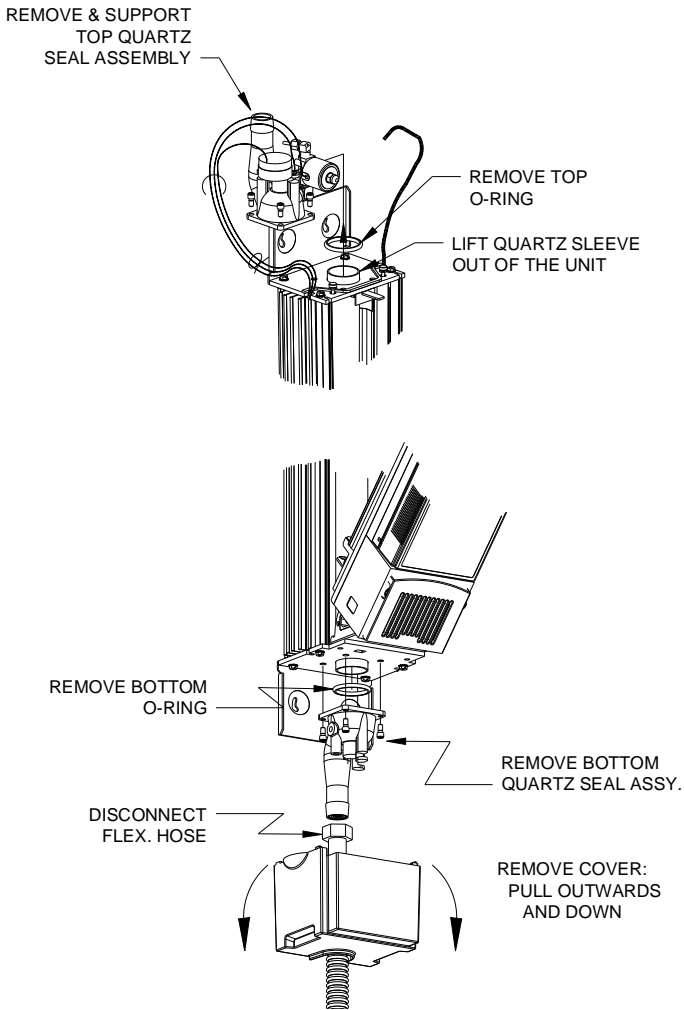

Figure 4D
Step 4: If the quartz is still not clean, it requires replacement. This is done by removing the bottom quartz seal assembly (see Figure 4D).
Step 9: Replace the bottom quartz seal assembly (see Fig. 4D) by installing the four fasteners in an alternating pattern (top left, bottom right, bottom left, then top right) Ensure that the connection port is at the backside of the unit